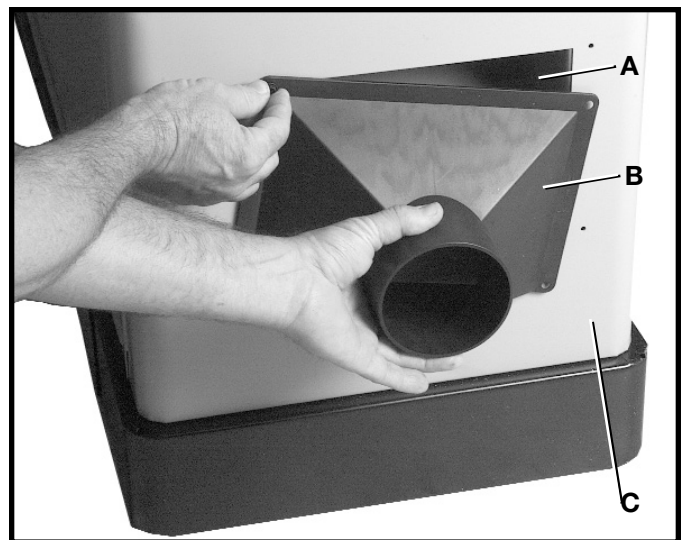

Fig. 16A
The jointer stand has a built-in dust chute (A) Fig. 16A. If this machine is to be used with a dust collection system, the supplied dust collector connector (B) Fig. 16A, can be fastened to jointer stand (C) with four #10-16x1/2" hex head screws (not shown).